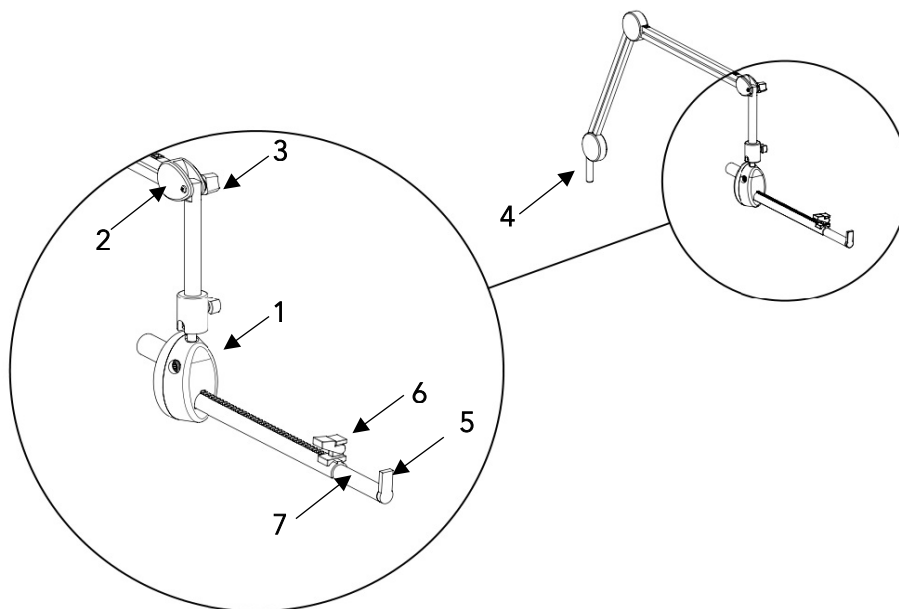

Figure 20: UPP Nose Unit and Motor Body
Refer to Figure 20 below for an overview of the UPP Nose and Motor Body:
5. By turning the stopcock lever in appropriate directions, flush fluid from syringe through both the pressure cartridge and the pressure measurement tubing. Refer to Figure 20.